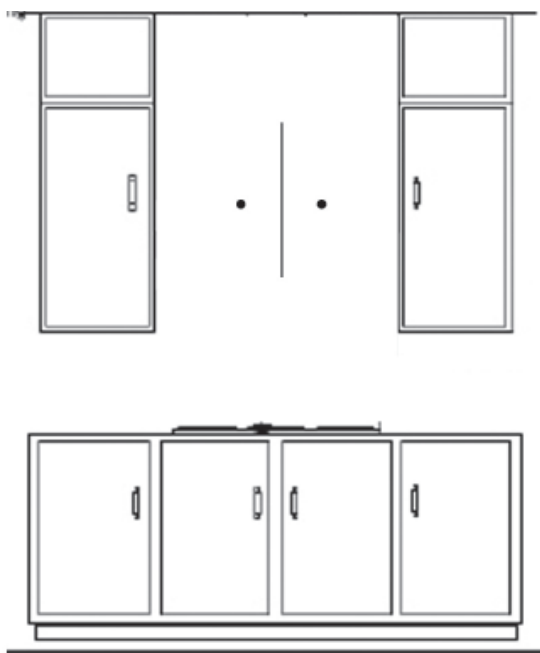

Figure 1
1. Based on the width of your hood, measure to find the center of the wall. Mark a line and measure to the left and right to find your two mounting points. Make sure the mounting points are level and mark the area with a pen. It is recommended to install the hood into wood supports to hold the weight of the hood. *Figure 1*